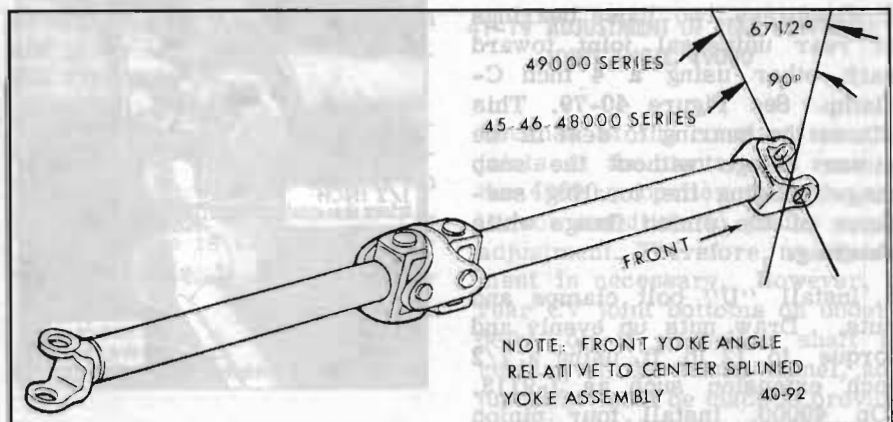

Figure 40-78—Propeller Shaft Phasing
2. Align the index spring with the missing internal spline in the rear end of the front propeller shaft and slide the slip joint together. See Figure 40-78 for proper phasing of the propeller shaft.